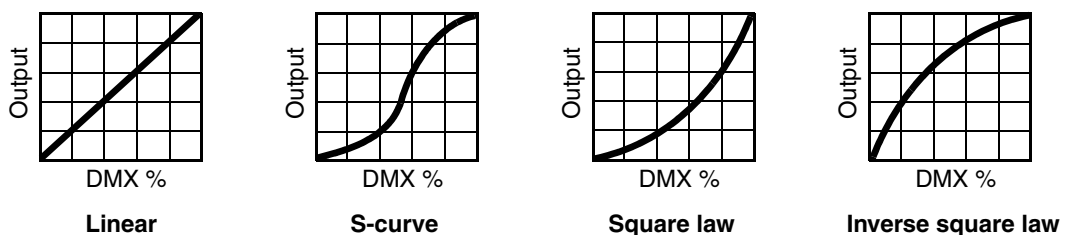

Figure 7: Dimming curve options
- **DIMMER CURVE** provides four dimming options (see Figure 7) that you can scroll through in the selection pane: